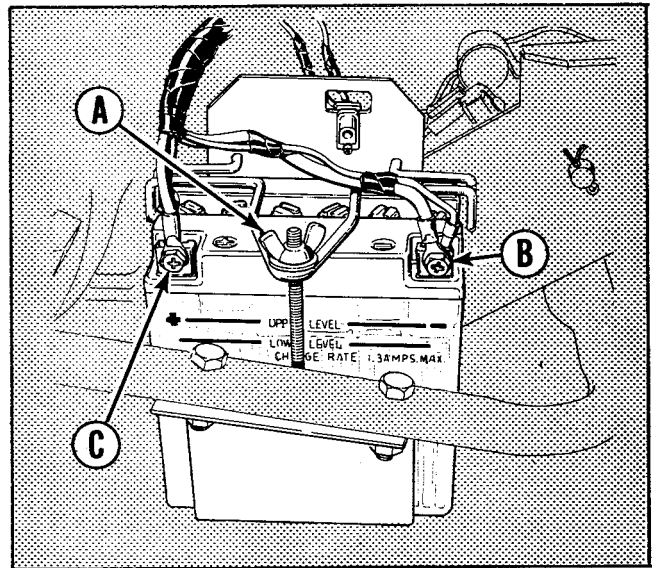

FIGURE 8
11. Install the battery with the negative terminal towards the front of the tractor, secure with the battery hold (A) down as illustrated. Install the white and green wires to the negative terminal (B) and then the red wire to the positive terminal (C). (See figure 8.)